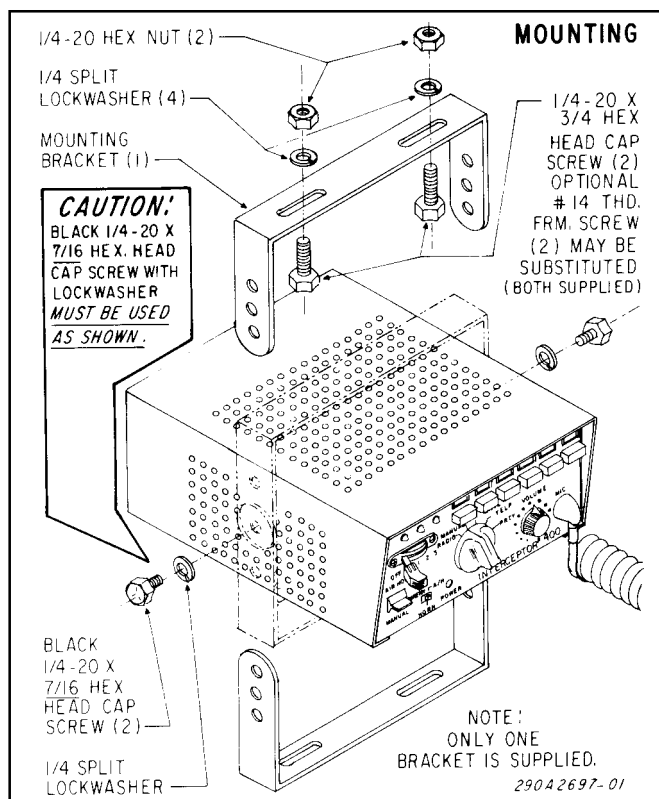

Figure 3-1. Mounting Bracket Installation.
The unit should be mounted in a position that is both comfortable and convenient to the operator. The mounting position must allow the vehicle, controls, and microphone to be operated safely at all times. Keep visibility and accessibility of controls in mind. To install the unit using the bracket, determine the mounting location and proceed as follows (see figure 3-1).
C. Secure the mounting bracket to the surface with (2 each) 1/4-20 x 3/4 hex head screws, 1/4 split lockwashers and 1/4-20 hex nuts as shown in figure 3-1. The unit will be secured to the mounting bracket after wiring is completed.
To avoid damage to the unit, the **BLACK** 1/4-20 x 7/16 hex head cap screws and the 1/4 split lockwashers **MUST** be used as shown in figure 3-1.